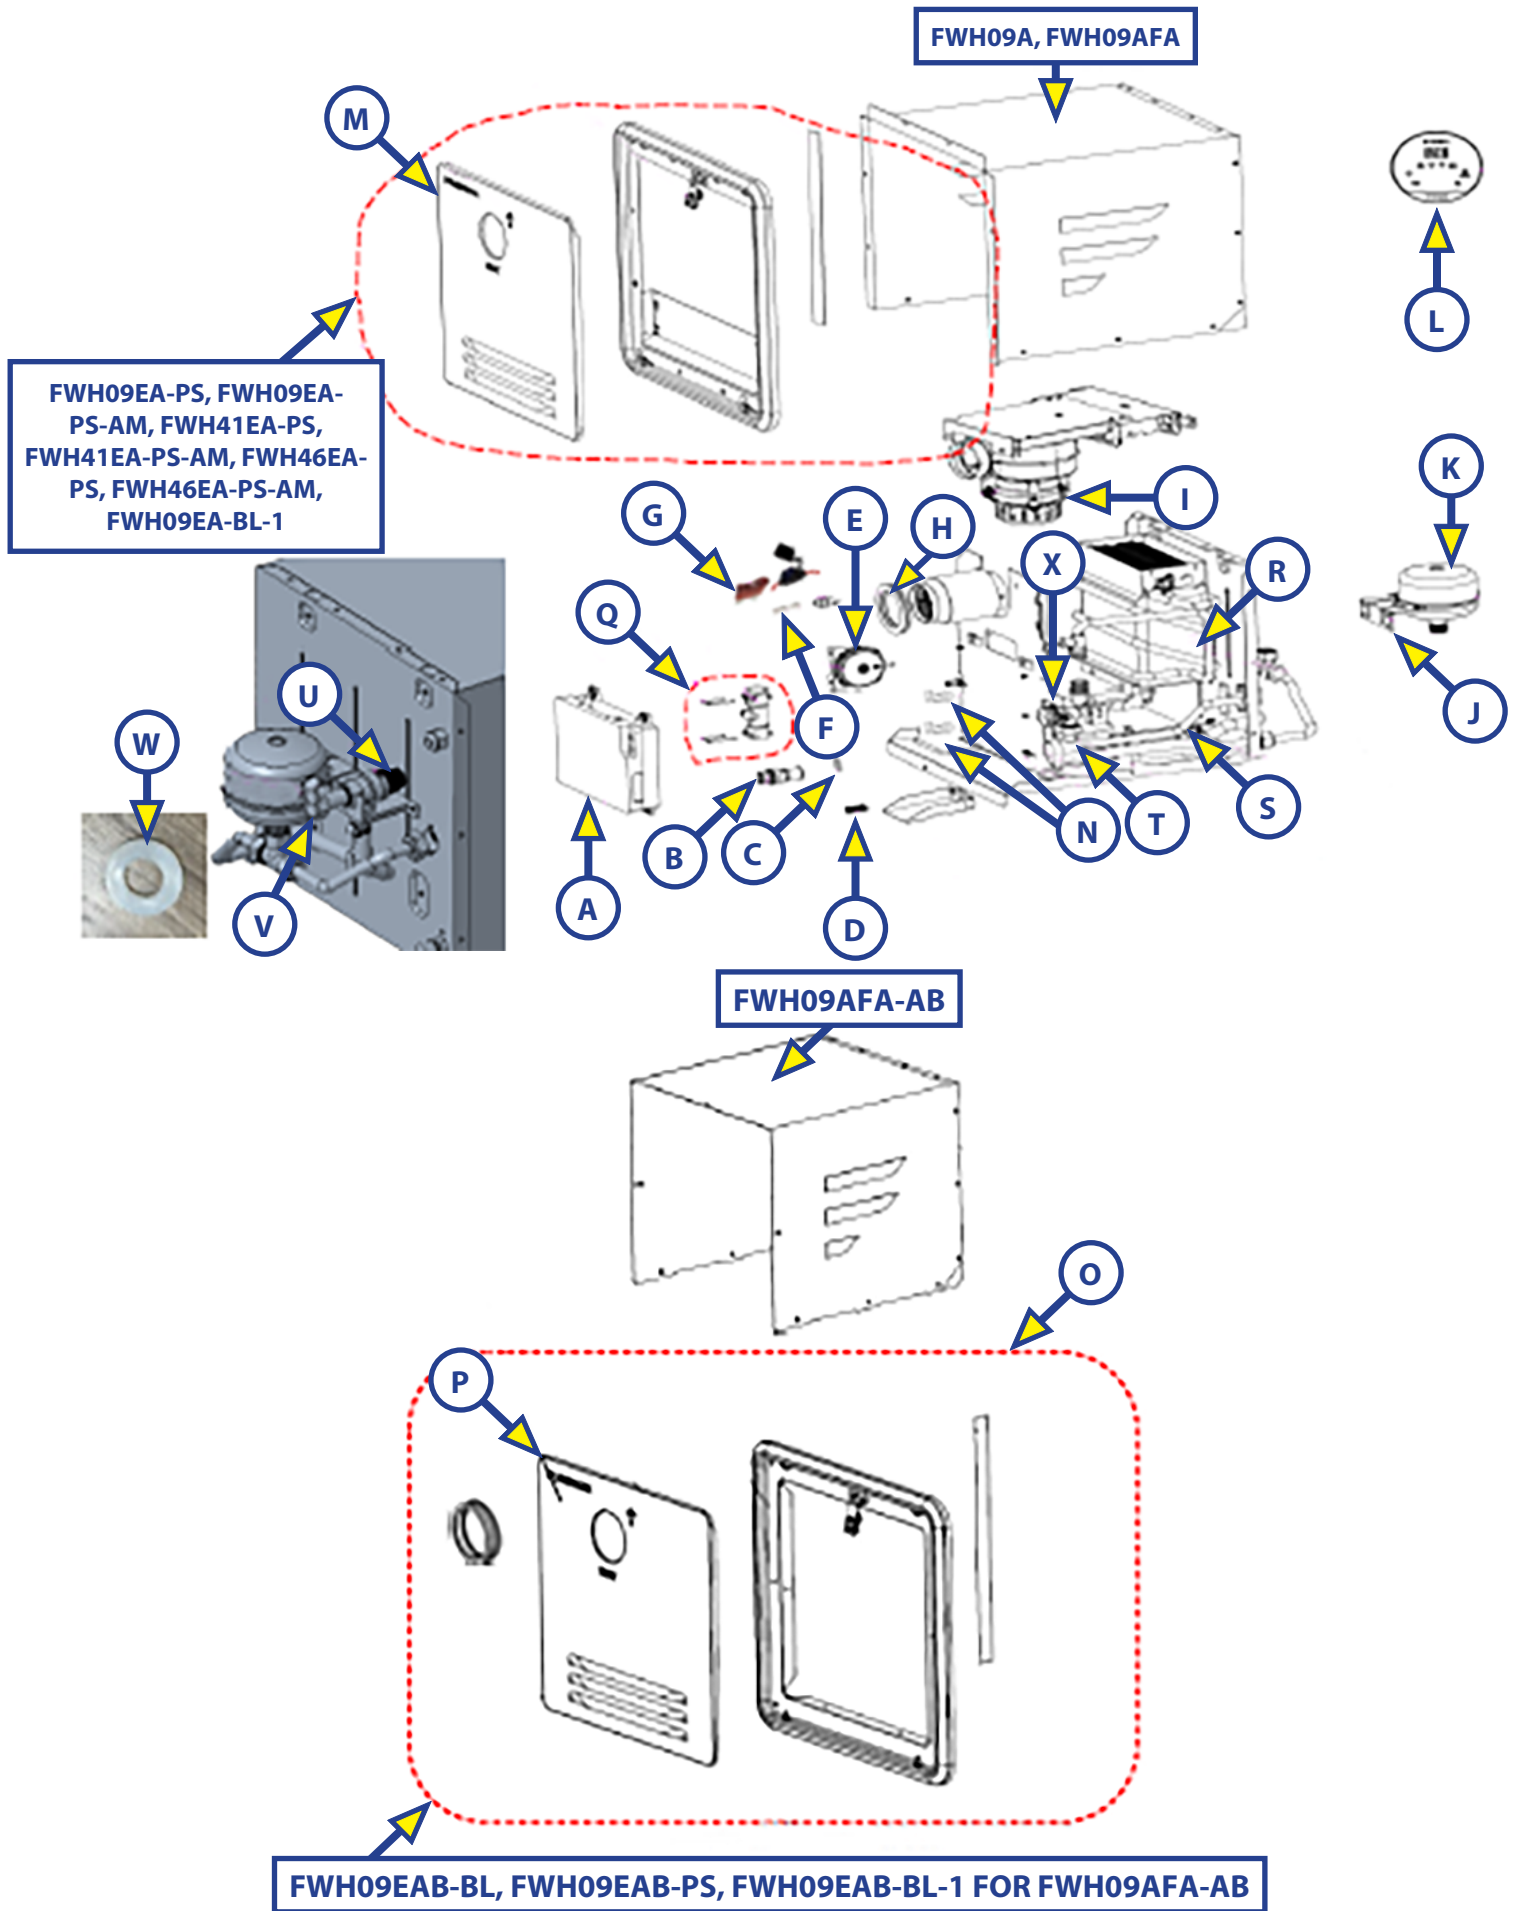

**Fig. 9**
5. Check the drain hose for water (Fig.9). Water in the drain hose indicates the pressure safety valve is working properly.